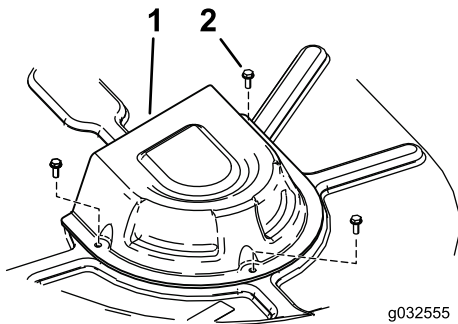

Figure 60
4. Remove the pulley covers (Figure 60).
6. Route the new belt around the engine pulley and mower pulleys (Figure 60).